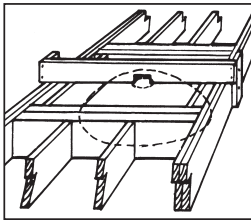

Figure 1
- **Frame and Wallboard Construction:** Cut wallboard and remove necessary sections of joist. Add as needed for support (*figures 1 & 2*): (1) framing members, (2) double members on each side and perpendicular to ceiling joist, (3) over the top to hold electrical box.